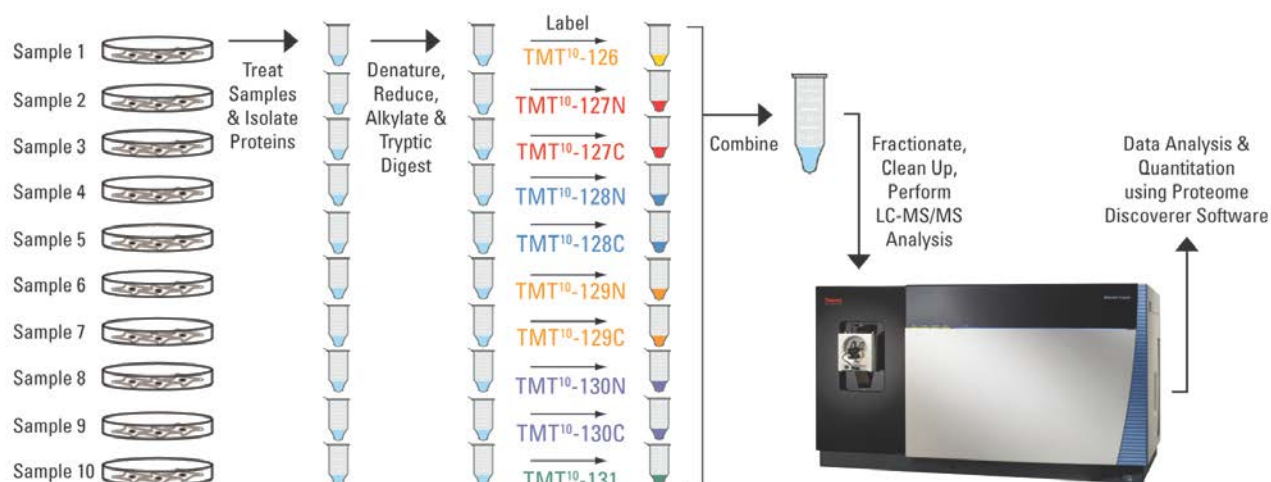

Figure 1. Procedure schematic for using the Thermo Scientific TMT10plex Label Reagents.
The Thermo Scientific™ TMT™ Mass Tag Labeling Kits and Reagents enable multiplex relative quantitation by mass spectrometry (MS). Each mass-tagging reagent within a set has the same nominal mass (i.e., isobaric) and chemical structure composed of an amine-reactive NHS-ester group, a spacer arm and a mass reporter (Figure 2A). The reagent set can be used to label up to 11 different peptide samples prepared from cells or tissues. For each sample, a unique reporter mass (i.e., 126-131Da) in the low mass region of the MS/MS spectrum is used to measure relative protein expression levels during peptide fragmentation (Figure 1).